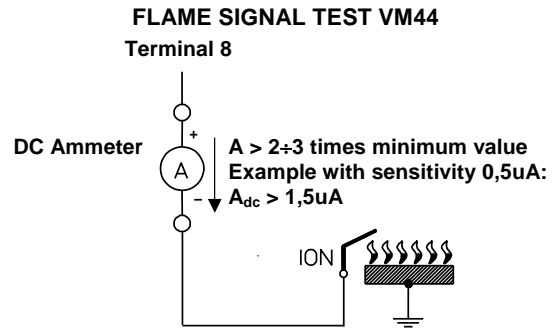

Fig. 8
- if the starting attempt occurs without fuel supply, the controller locks out at the end of the safety time (TS);
- the level of the flame signal is high enough (for flame signal test see figure 8 and 9)